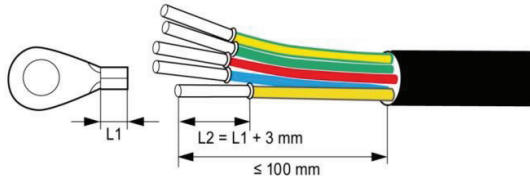

Fig 5.6 Crimp cable terminal
(1) Connect the four wires of the three-phase public power grid L1, L2, L3 and N to the AC connector interface according to Table 5-1, and connect the grounding wire to the grounding point on the outside of the chassis, and ensure that the conductors are crimped firmly without exposure , As shown in Fig 5.6;